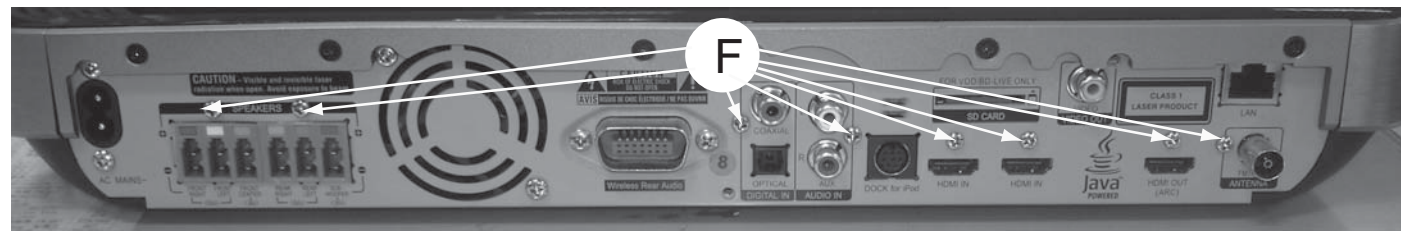

Figure 9
- 2) Loosen 8 screws "F" at the back panel as shown in figure 9.